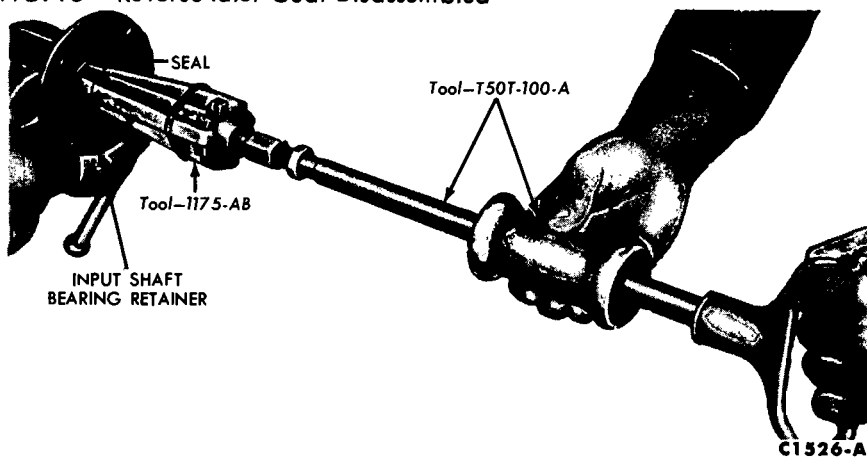

FIG. 19—Removing Input Shaft Seal
1. Remove the seal from the input shaft bearing retainer as shown in Fig. 19.